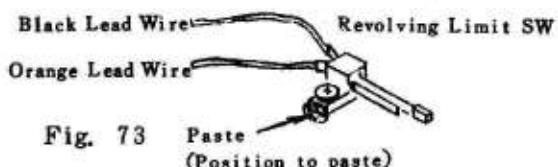

Fig. 73 Paste
- Fit the Revolving Limit Switch (1AA57310) to the Winding Upper Base Plate Ass'y (1AAAA600) and secure it with the Revolving Limit Switch Setscrew (61922526). Attach the Revolving Limit Switch with an adhesive (cemedine 551A). (See Fig. 73).